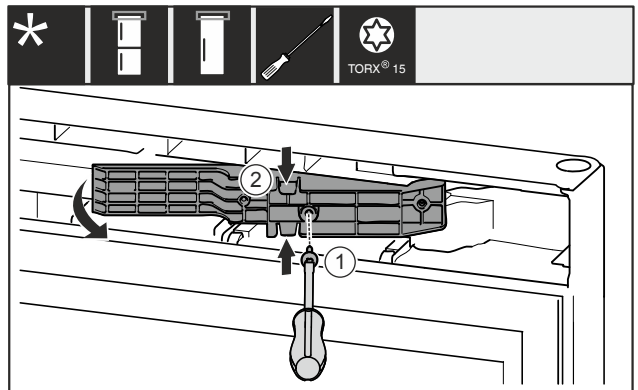

Fig. 14 \*
- Remove the screw Fig. 14 (1).\*
- Gently press the adapter piece Fig. 14 (2) together at the top and bottom and pull it out.\*